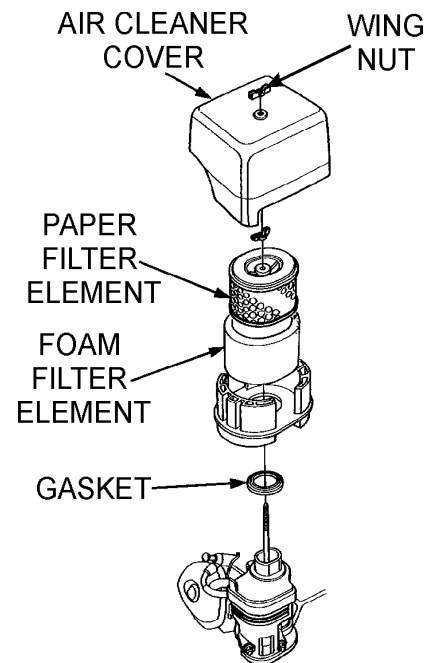

Figure 20. Engine Air Cleaner
- Remove the air cleaner cover and foam filter element as shown in Figure 20.
- Tap the paper filter element (Figure 20) several times on a hard surface to remove dirt, or blow compressed air [not exceeding 30 psi (207 kPa, 2.1 kgf/cm²)] through the filter element from the air cleaner case side. **NEVER** brush off dirt. Brushing will force dirt into the fibers. Replace the paper filter element if it is excessively dirty.